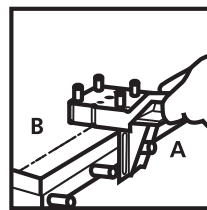

Figure 19
- Place the Quick Dowel Jig on top of board B with the pegs of the jig pointing up. Line up the markers on the sides of the Quick Dowel Jig with the centre line you marked earlier for the dowels in board B. Slide in the angle piece over one of the dowel pins in board A, using the appropriate slot in the angle piece. With the angle piece flush against the edge of board B, tighten the screws. See Figure 19.